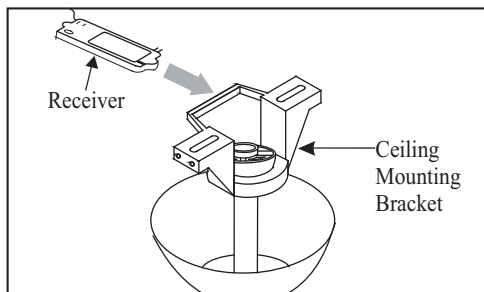

Figure 15
1. Insert the receiver into the mounting bracket with the flat side of the receiver facing the ceiling as Figure 15.